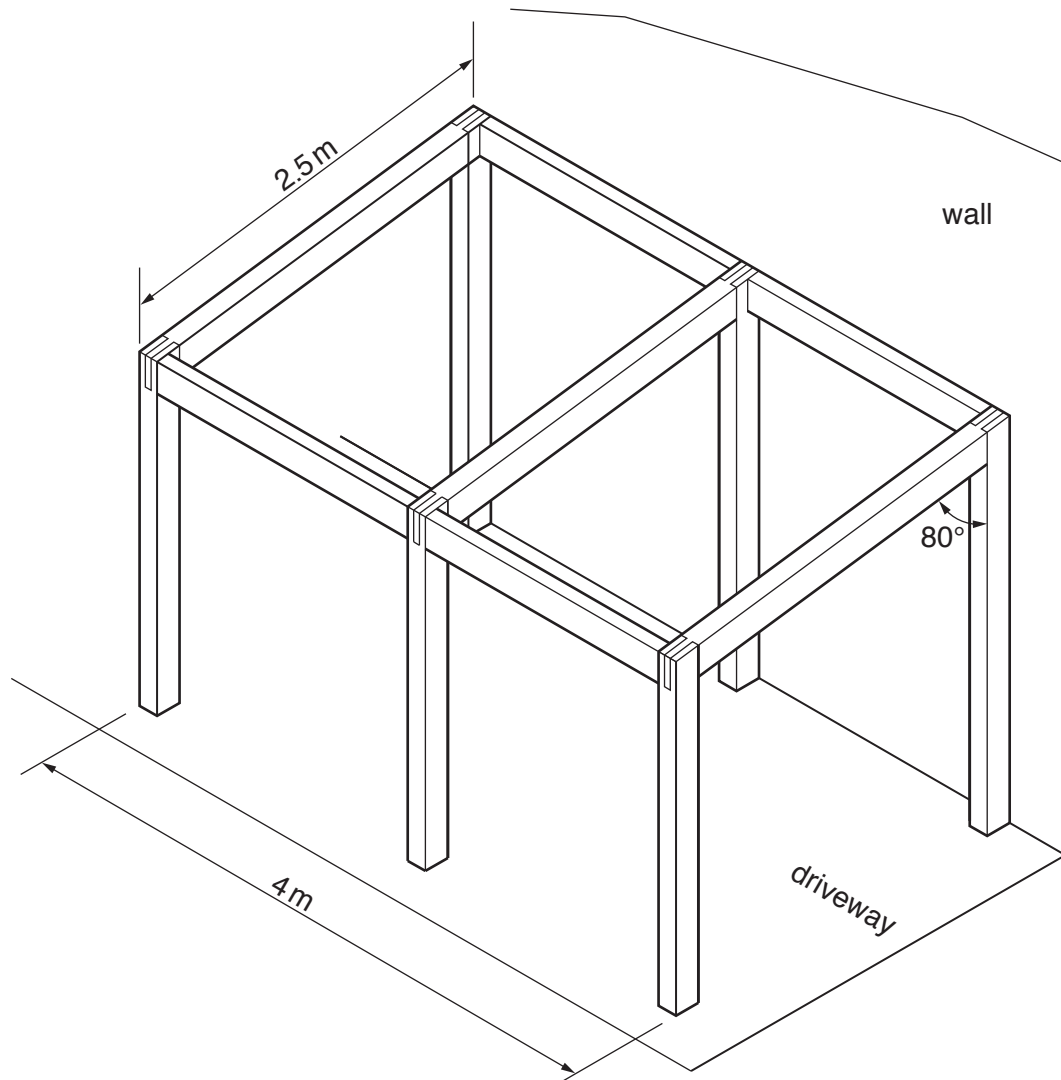

Fig. 6
- (iii) Fig. 6 shows a frame for a carport. The roof is to be covered using six uncut corrugated plastic sheets $2600\text{ mm} \times 800\text{ mm}$.
Draw on Fig. 6 to show **two** of the corrugated plastic sheets correctly positioned on the roof frame. [2]